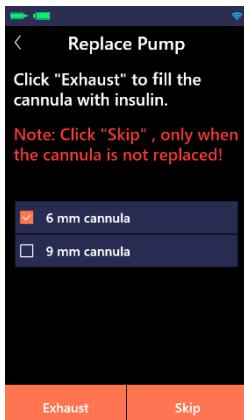

Figure 11.7
**(7)** Exhaust, Select the length of the soft cannula you are using and then click "Exhaust", the insulin will fill the soft cannula (Figure 11.7).